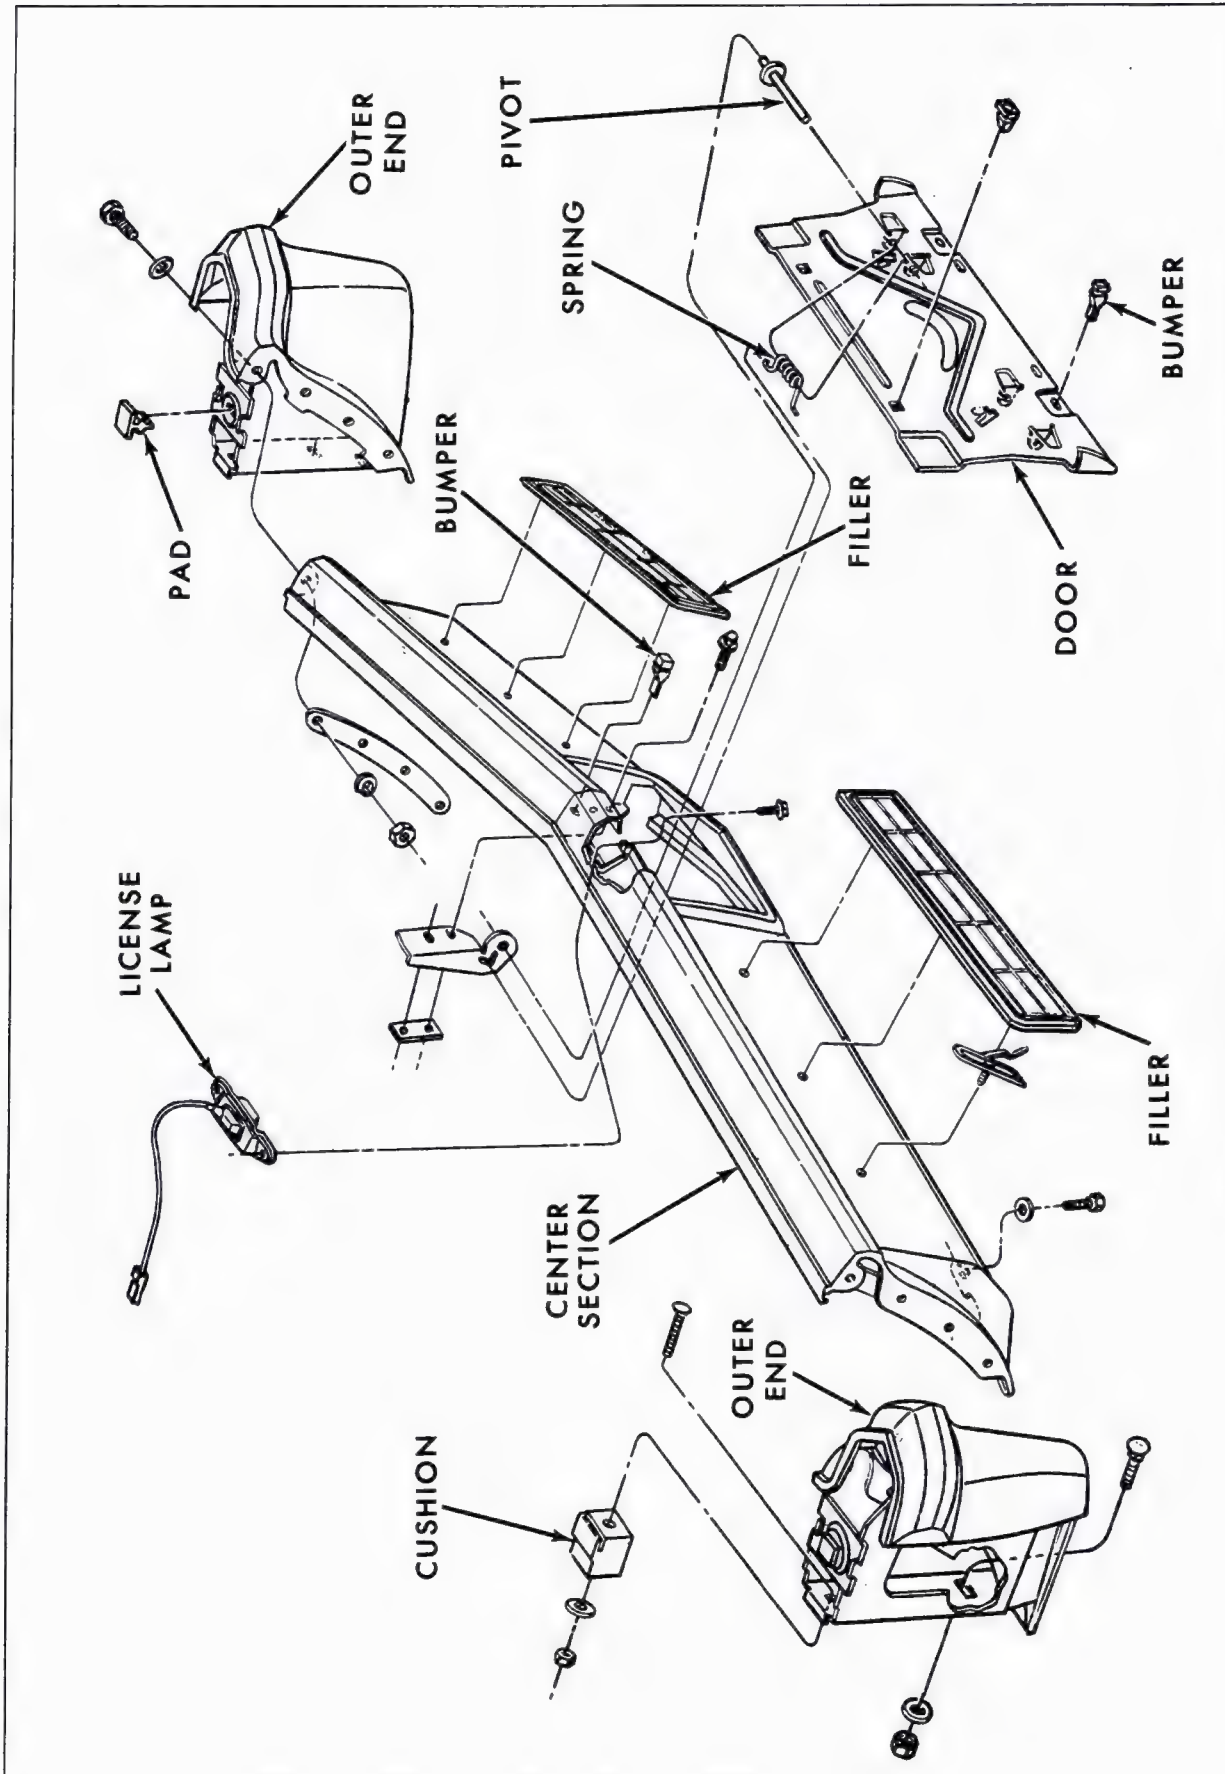

Fig. 14-4 Rear Bumper Disassembled
### a. Removal (Fig. 14-4)
**b. Installation (Fig. 14-4)**
**a. Removal (Fig. 14-4)**